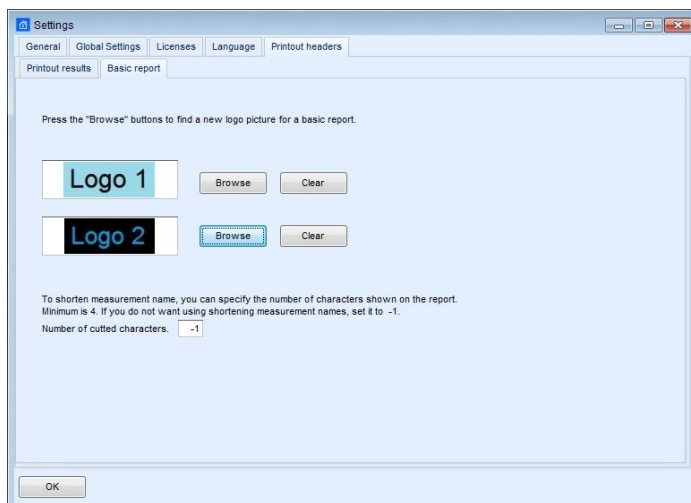

Figure 9.3: Basic report header logo setup
- Select Basic report tab (**Figure 9.3**) to open Logo setup options: